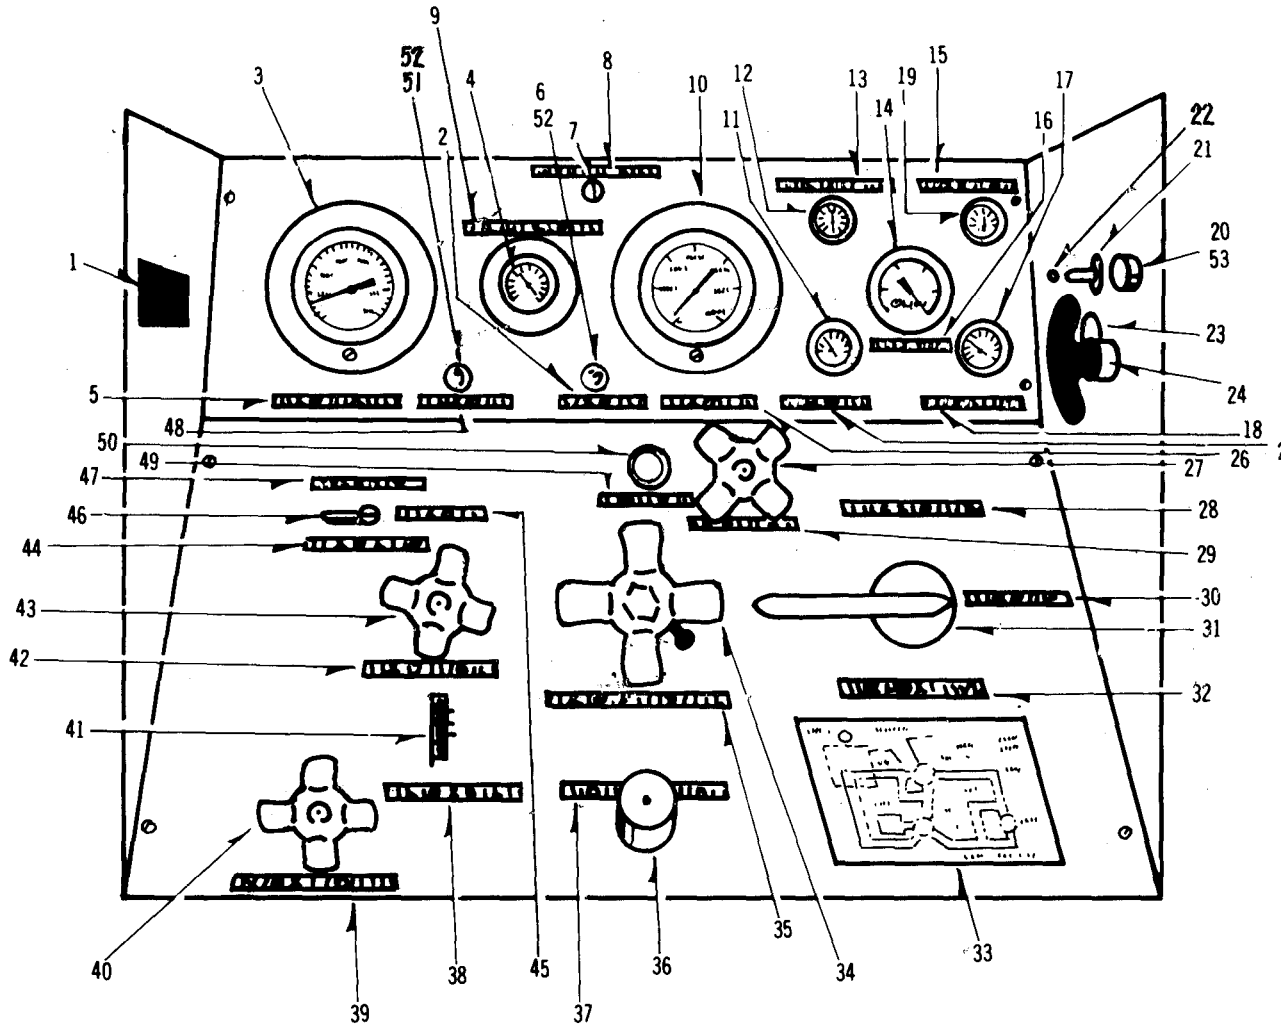

Figure 4-2. Control Panel and Instrument Assembly (Front View)
f. Remove volume control and compensator control (34 and 50, fig. 4-2).
c. Replace volume control and compensator control (34 and 50, fig. 4-2).